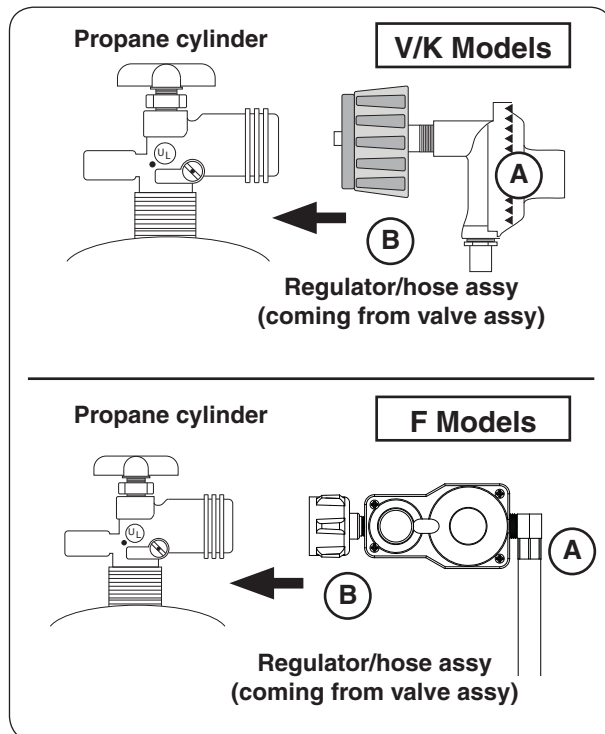

Fig. 29-1 Connecting to an L.P. cylinder
3. Attach the regulator end of the hose assembly to a propane cylinder (not included) and tighten (see Fig. 29-1).